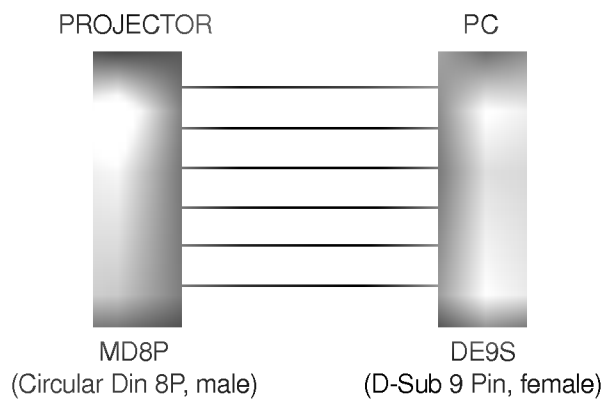

Fig.1,RS232C configuration
- Use the RS232C cable to control the projector externally (Refer to Fig.1).